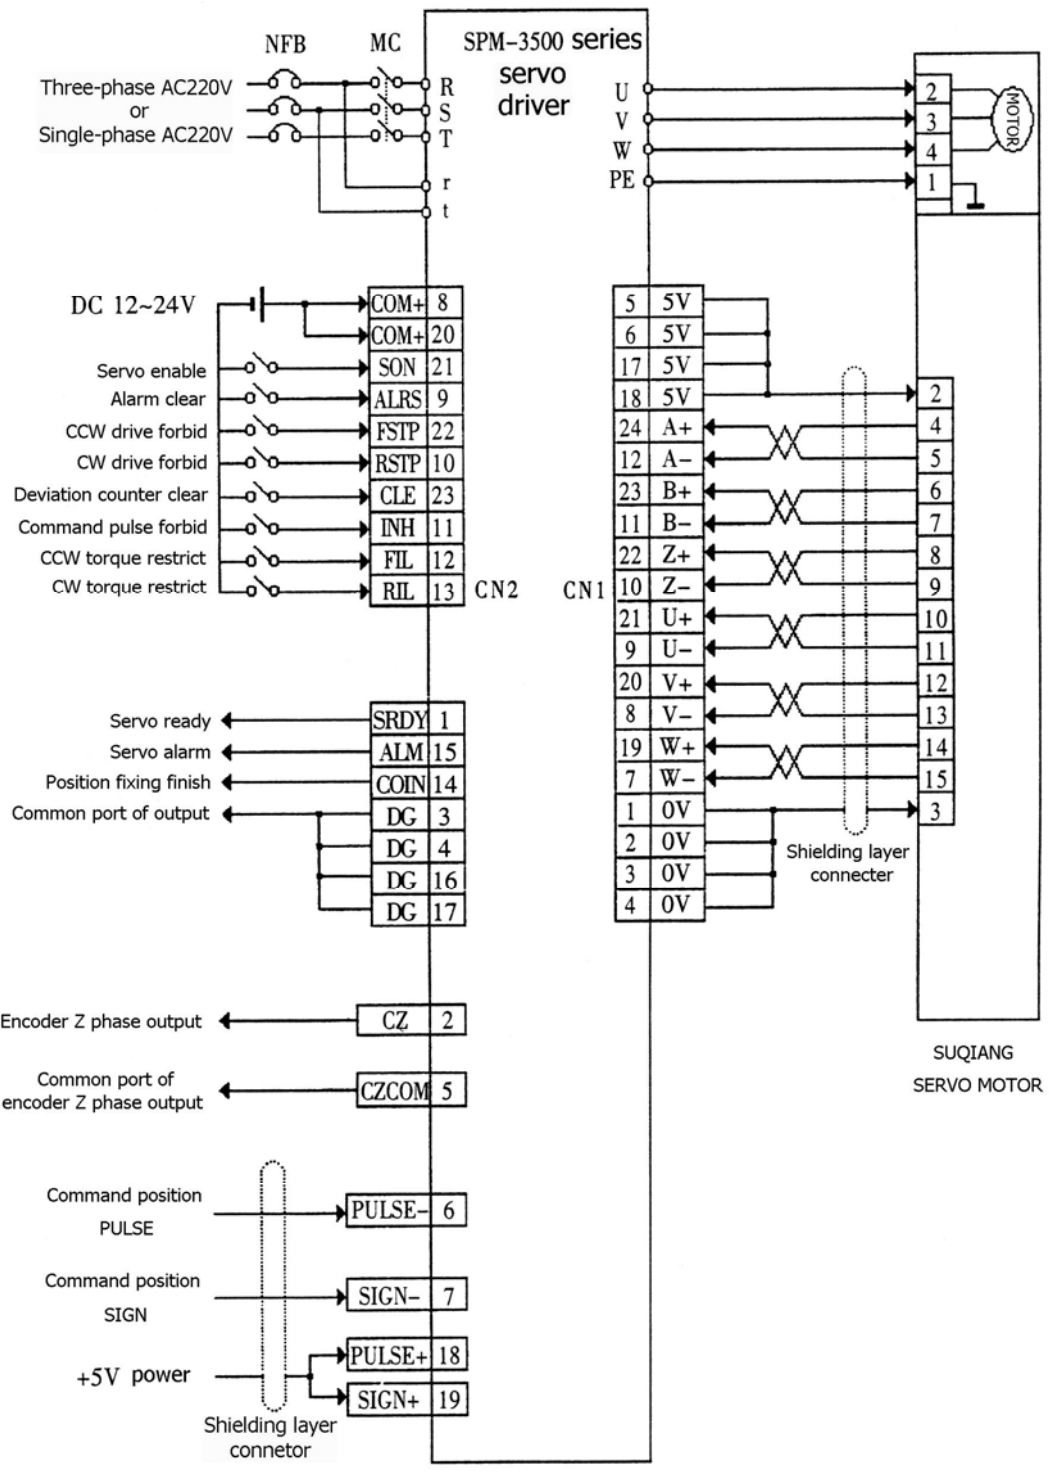

Fig 5.5 Standard wiring for position control mode between the driver and SUQIANG servo motor
- 5) Fig 5.5 shows: The standard wiring for position control mode between the driver and SUQIANG servo motor;